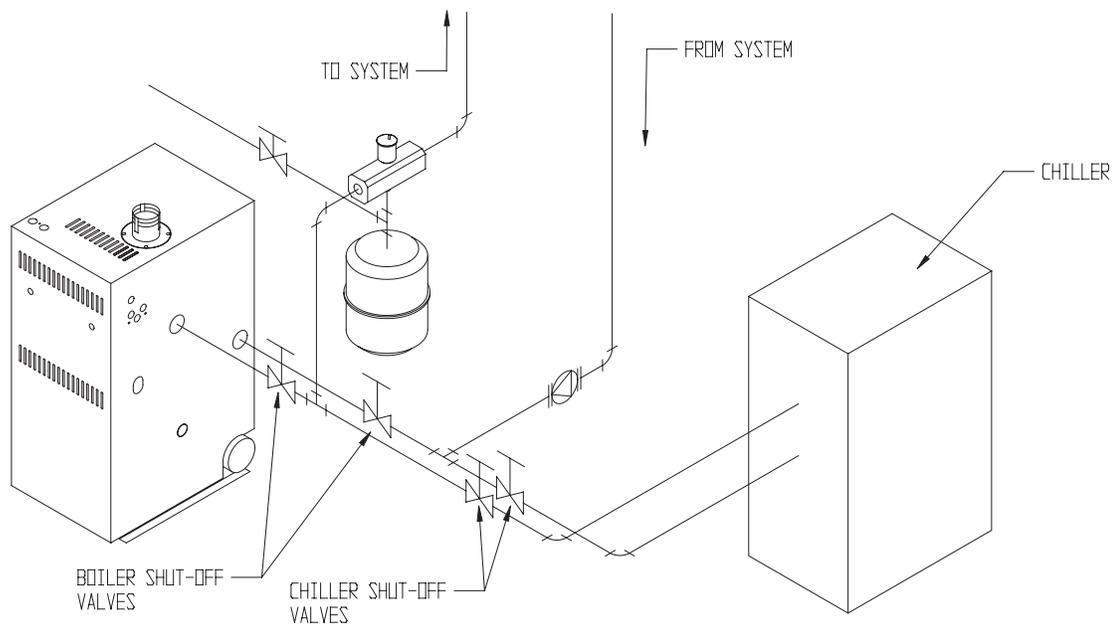

FIGURE 8.5: CHILLER PIPING
- 5) Piping with a Chiller – If the boiler is used in conjunction with a chiller, pipe the boiler and chiller in parallel as shown in Figure 8.5. Use isolation valves to prevent chilled water from entering the boiler.